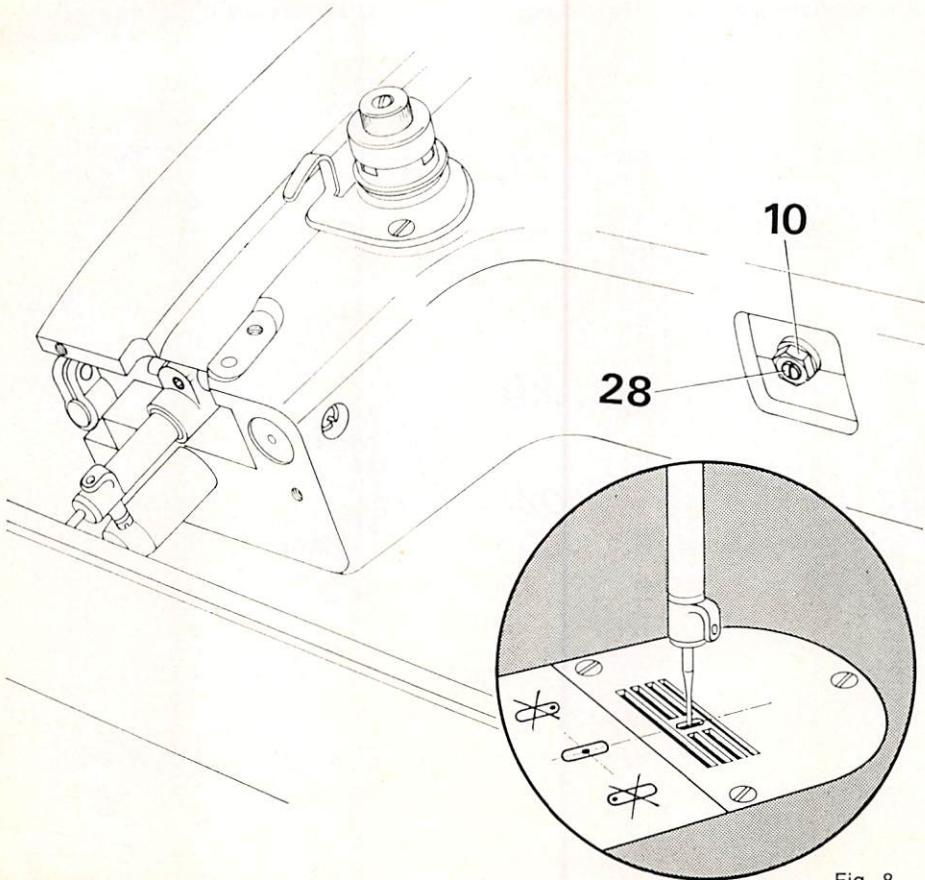

Fig. 8
5. Adjusting the Needle in the Needle Hole Sideways (Fig. 8)